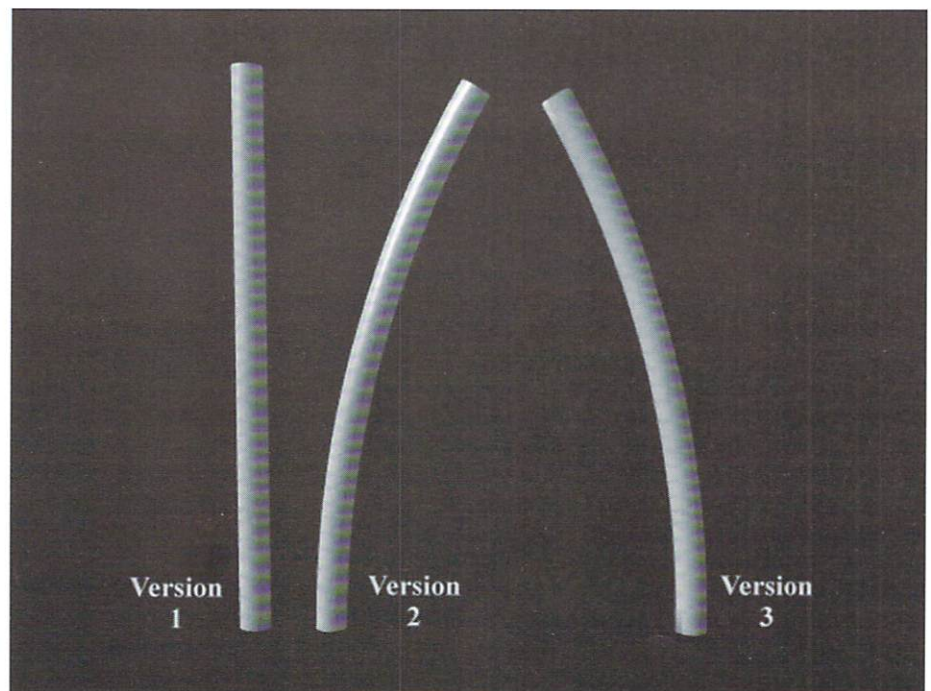

Figure 2: Objects we will use to simulate a vibrating antenna.
(4) We can specify multiple morph targets for an object in the following way: After specifying a target object for the source object, assign a Metamorph Target to the target object itself. After the source object is morphed into the target object, the target object itself can then be morphed into a third object (Figure 2). With this "layered" morphing method, we can perform one morph after another to the same source object.
Let's say we have three versions of an antenna (Figure 2). The first version represents the antenna at rest, or as it appears before anything happens to it. The second version is bent to the right, while the third version is bent to the left, representing the extreme angles to which the antenna will vibrate. All three versions have the same point count and polygon order; in short, they are morphable.